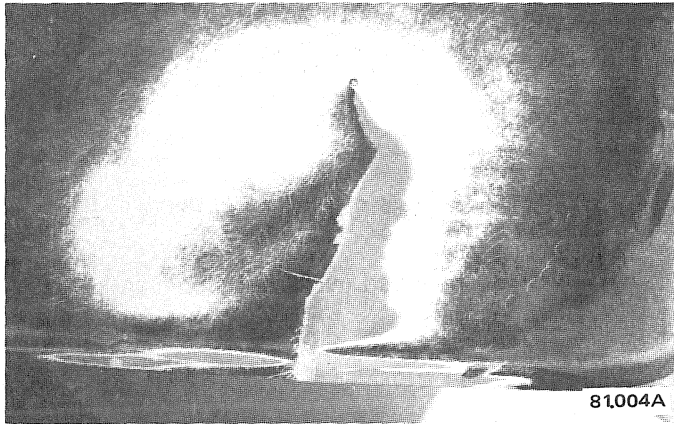

Fig. 3F-14 Stop-Drilling Cracks
(2) Stop-drill crack(s) using 1/8-inch drill bit as shown in figure 3F-14.